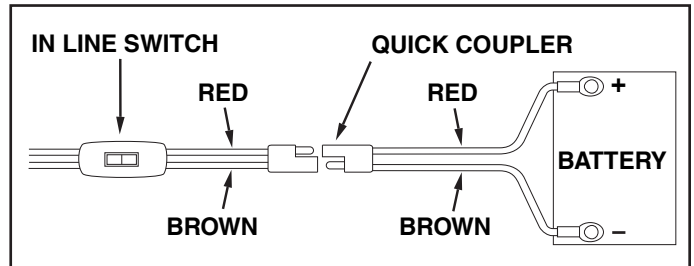

FIGURE 9
16. Attach the sprayer to the tractor hitch and connect the wiring to the tractor battery. The red wire must be connected to the positive post on the battery or to the "HOT" connection on a tractor switch or ammeter. The brown wire may be grounded or connected to the negative battery post. See figures 9 and 10.